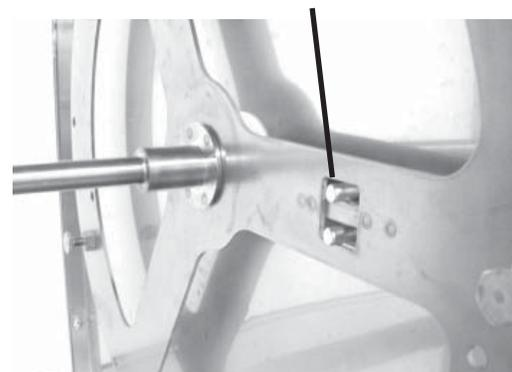

Figure 9
STEP 6: Rotor is now in normal operating position (Figure 9).